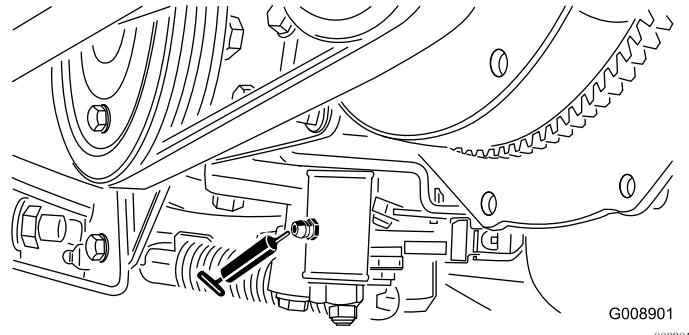

Figure 35
- Neutral-adjustment mechanism (Figure 35)